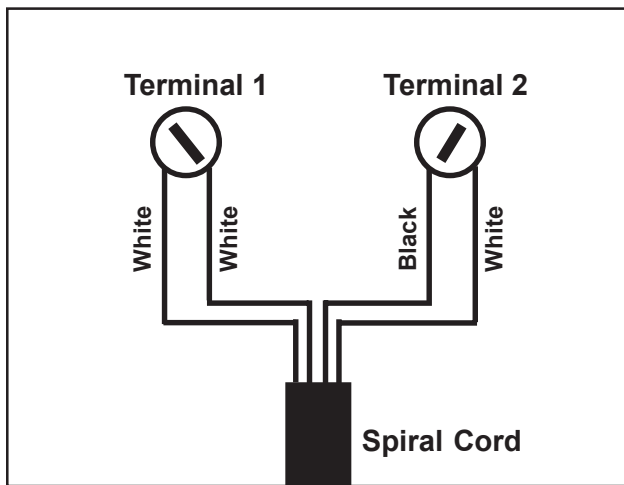

Figure 102. Wiring Diagram of Oxygen Sensor-to-Meter Connections
1. Connect the white and black wires from the spiral cord of the new oxygen sensor to Terminal **2** on the meter (Figure 102).